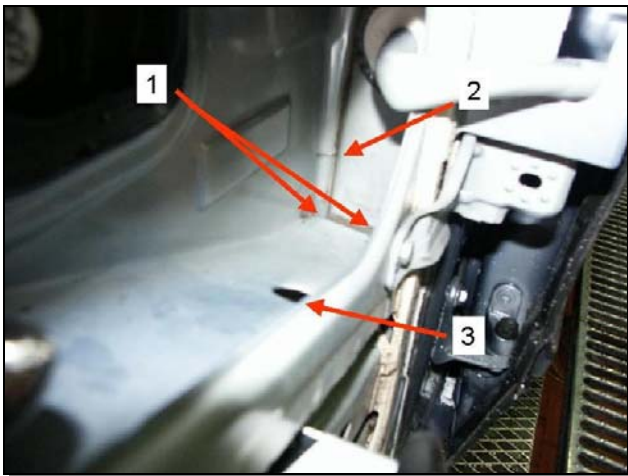

Figure 1
1. Blocked water drain in the upper longitudinal member under the front fender (blocked by debris) (Figure 1, callout 1).
2. Rising water penetrates the interior compartment because of a lack of seam sealer on the double panel of the firewall/longitudinal member on the inside at the top (Figure 1, callout 2).
3. Apply seam sealing to the double panel of the firewall/longitudinal member toward the cross member under the wind deflector (Figure 1, callout 2).